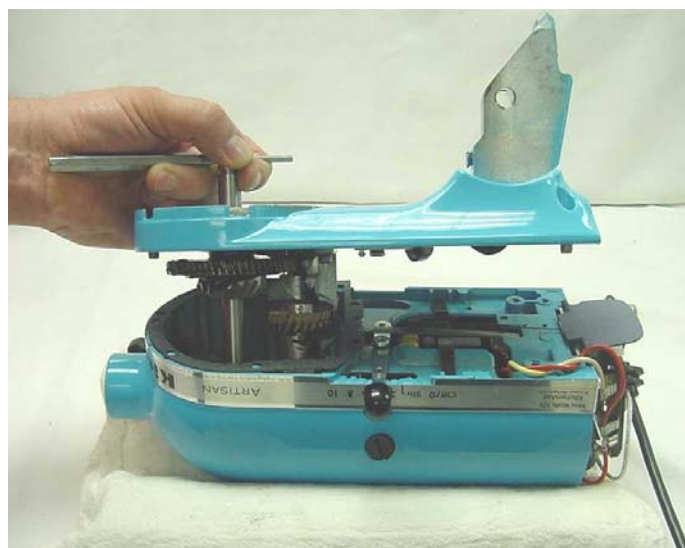

Fig. 60 Initial mating of bottom cover to gearcase - motor housing.
O. Lock the latch lever and hold the bottom cover in position over the gearcase-motor housing and start joining them together (Fig. 60).